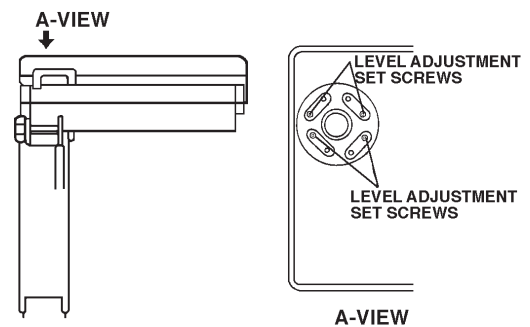

Fig.3-12 Level Adjustment Screws
(7) Level Adjustment Screws for Doctor Table (Fig.3-12)